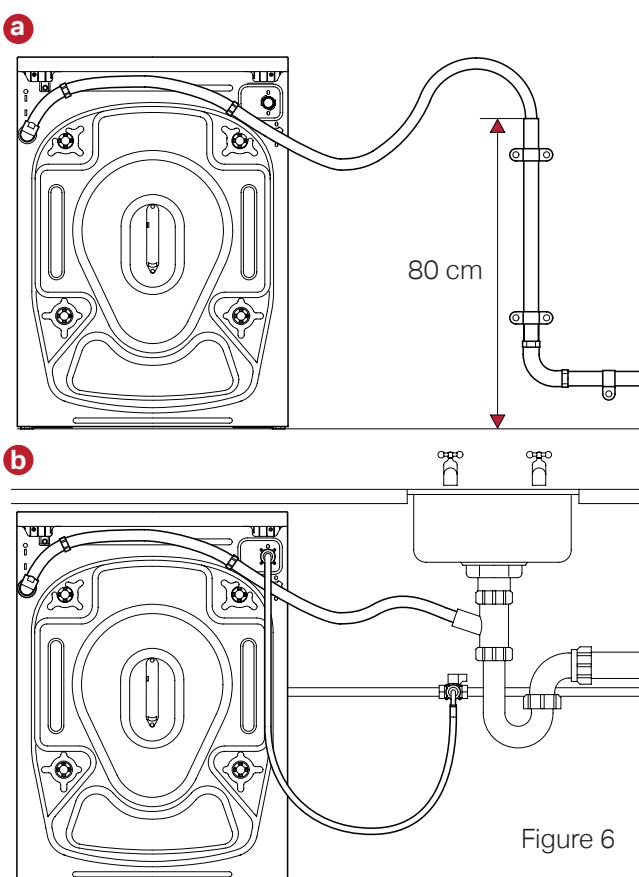

Figure 6
- 1 The drain hose can be connected to a standpipe (see Figure 6(a)).
- 2 The drain hose can be connected to a household sink (see Figure 6(b)).